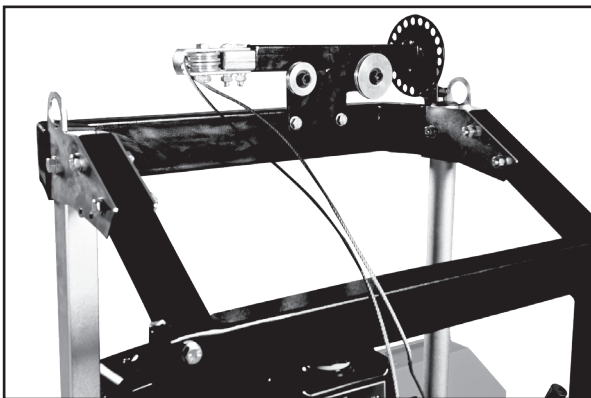
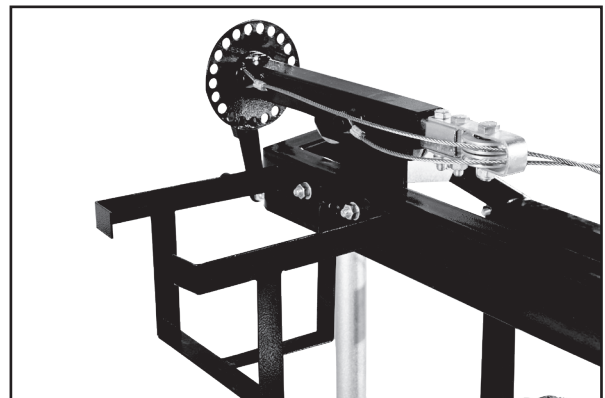
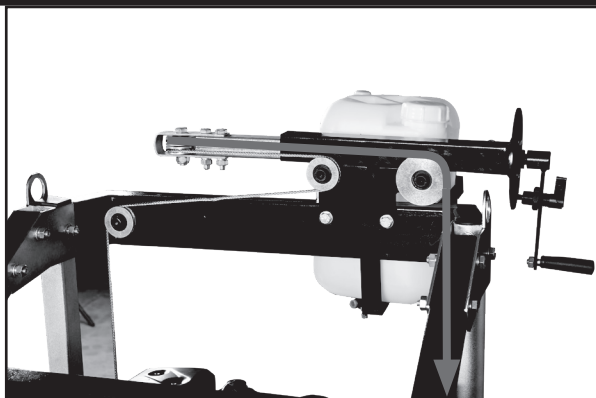
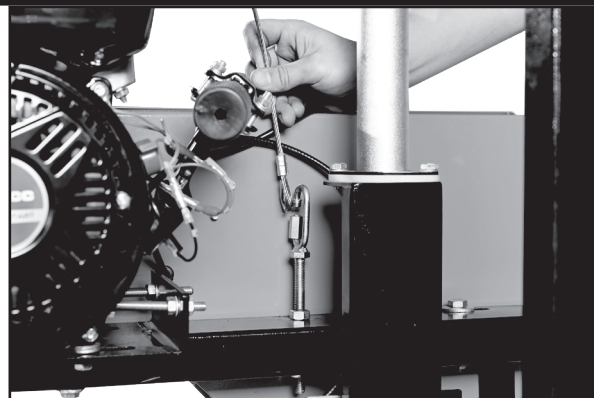

Fig. 33
Fig. 34
Fig. 35
Fig. 36
Step 20: Install the Pulley Lifting Mechanism and the Lube Tank Bracket, Fig. 33. Place the Pulley Lifting Mechanism on top of the Front Carriage Crossbeam with the pulleys on the engine side (Fig. 33). While holding the Pulley Lifting Mechanism in place, attach the Lube Tank Bracket as shown (Fig. 34). Use two M10x80 Hex Head Bolts, four M10 Flat Washers, two M10 lock washers, and two M10 nuts to secure the two pieces to the Front Carriage Crossbeam. Tighten the fasteners.
Step 21: Install the Carriage Lifting Cables. Once the Pulley Lift Mechanism is tightened in place, release the Lock on the Index Plate and turn the Crank Handle so that the twin horizontal pulleys are fully retracted. Although the cables are already attached to the Pulley Lifting Mechanism, ensure the shorter cable is hooked on the top anchor and that it is routed around the top pulley (Fig. 34). Continue routing the cable around the Pulley Lifting Mechanism and around the larger pulley near the index plate and straight down to frame of the Sawmill Head near the Round Support Tube (Fig. 35). Install the cable eye bolt into the frame and hook the cable to the eye bolt (Fig. 36).